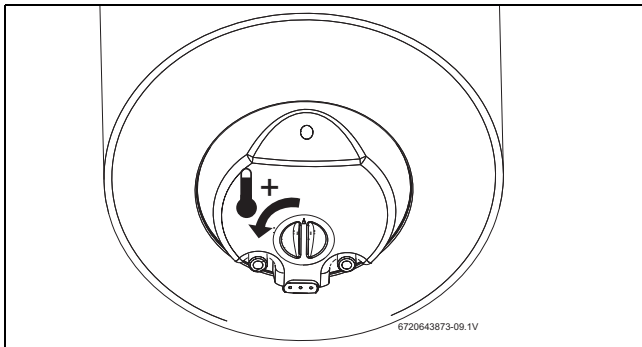

Fig. 9 Increase the temperature
- ▶ Position the thermostat on the maximum position, turn the temperature selector to the left up to the knocker (→ Fig. 9).